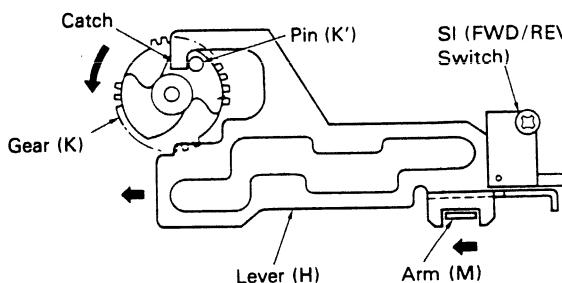

Fig. 38
- As gear (K) turns (Figure 38) pin (K') pushes the catch on lever (H) in the direction indicated by the arrow.
- As lever (H) moves, the FWD/REV switch is moved from the "REV" position to the "FWD" position. In addition, arm (M) moves in the direction indicated by the arrow, causing the head unit to change from REV to FWD (this action is the opposite of the action described at Paragraphs 6 and 7 of the section entitled "Mechanism for Switching from FWD to REV").